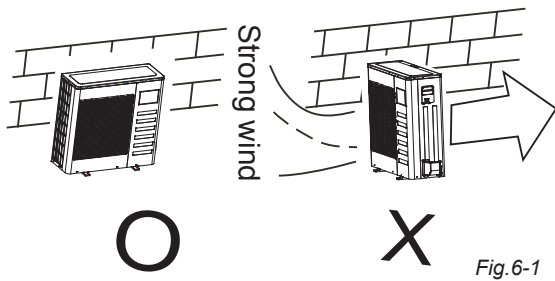

Fig.6-1
- In the case that the installation place is exposed to strong wind such as a seaside, make sure the fan operating properly by putting the unit lengthwise along the wall or using a dust shield.(Refer to Fig.6-1)